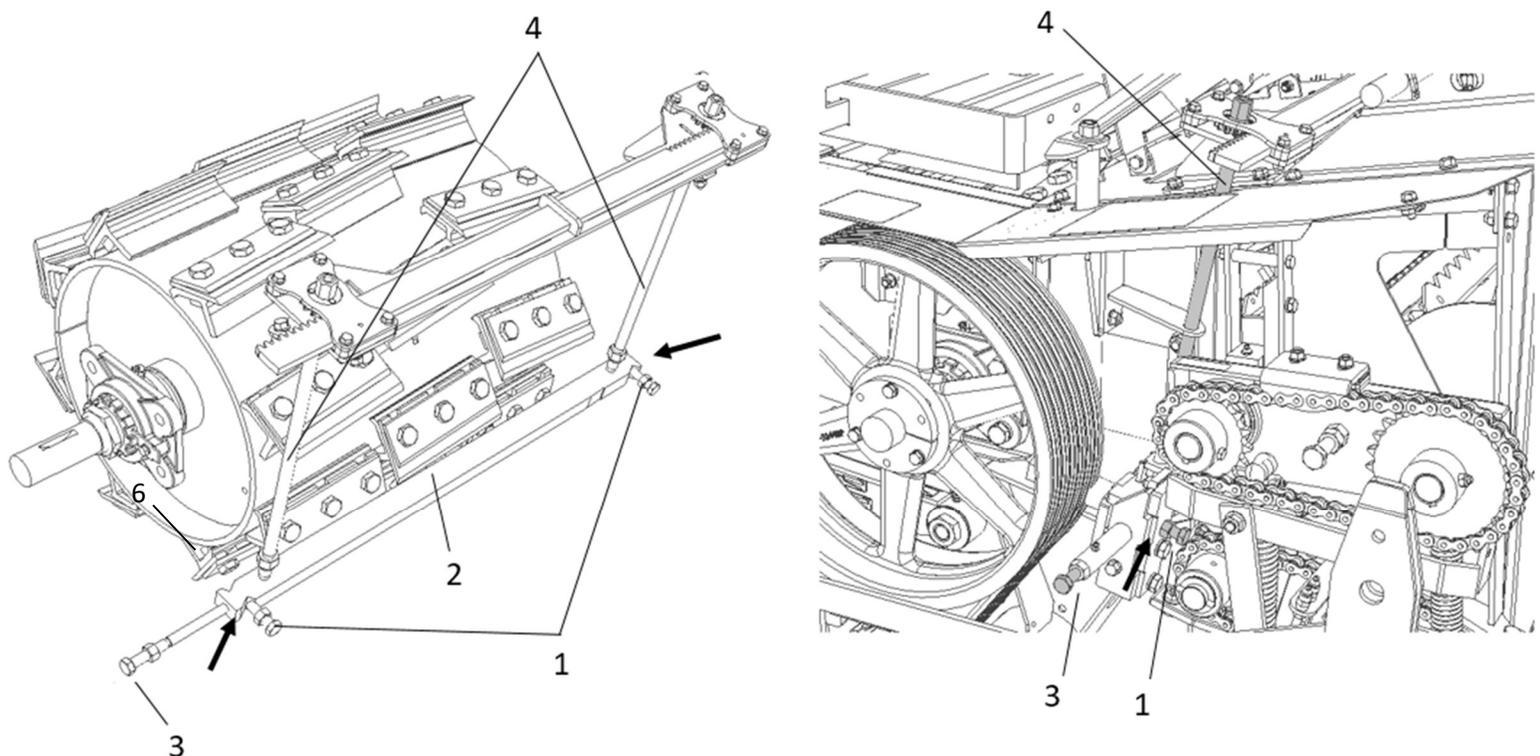

Figure 111 Shear bar initial adjustment
NOTE: Position the shear bar so that the parallelism adjustment screws (item 1) are embedded in the notches of the bar (see arrow Figure 111 Shear bar initial adjustment).